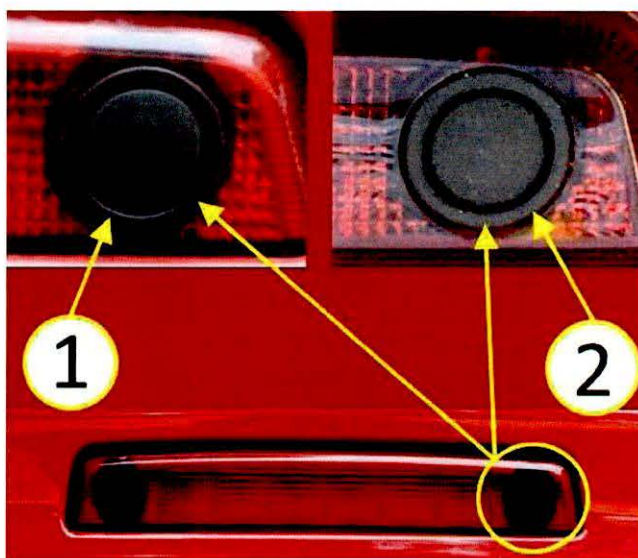

Fig. 1 Passive Entry Switch Button Surface
1. Determine if the trunk passive entry switch button surface is plastic (slippery) or rubber (grippy) by rubbing a finger across the switch button surface to detect the surface material. Appearance is very similar and may require careful examination to detect which version of switch is installed (Fig. 1).
- a. Plastic (1) (Fig. 1) replace the switch, perform the repair procedure.
- b. Rubber (2) (Fig. 1) no further action is required, return the vehicle to the customer.